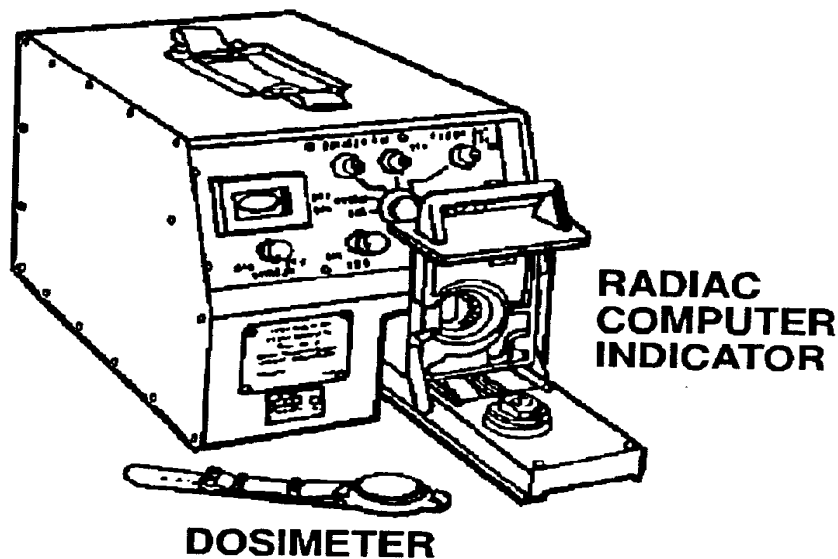

Figure 6-5. CP696/UD Radiac Computer Indicator and the DT236/PD Dosimeter
a. The new DT236/PD individual dosimeter looks like a wristwatch without a face. Wear it on the wrist to measure the cumulative dose of gamma and neutron radiation received. It is designed to augment the IM93 dosimeter. Selected trained personnel use the CP696/UD radiac computer-indicator to read this dosimeter (Figure 6-5). Data obtained form the basis of radiation dose exposure records. Units will maintain one DT236 per individual assigned plus 10 percent for loss or